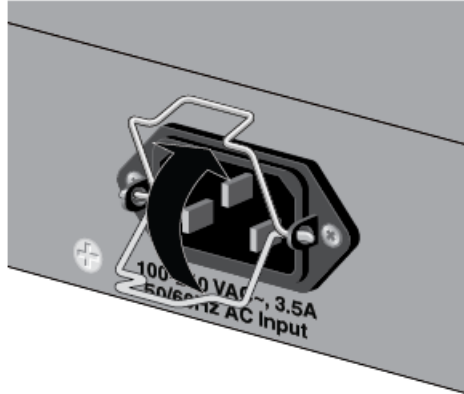

Figure 45. Raising the Retaining Clip
2. Raise the retaining clip. Refer to Figure 45.